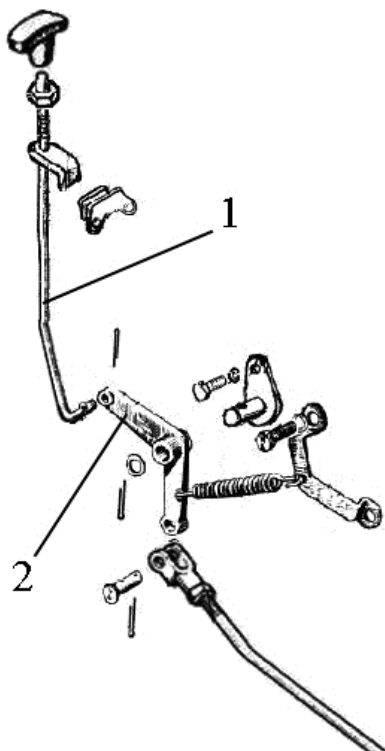

Figure 8.3
h) when your tractor is equipped with hydraulic hook, disconnect control handle 1 (Figure 8.3) from two-shoulder lever 2 and extract handle from slot inside the cabin to the operator’s left side;